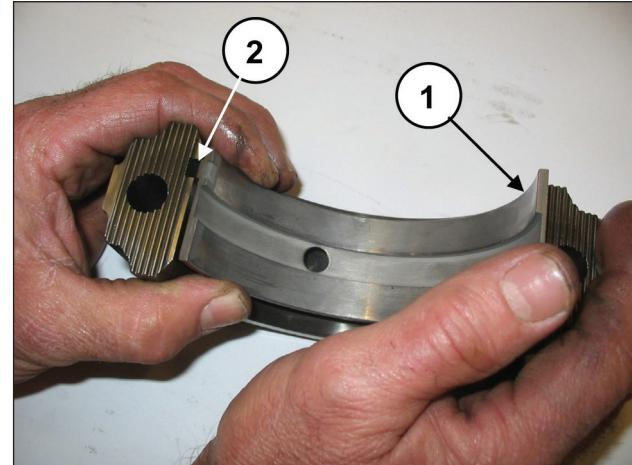
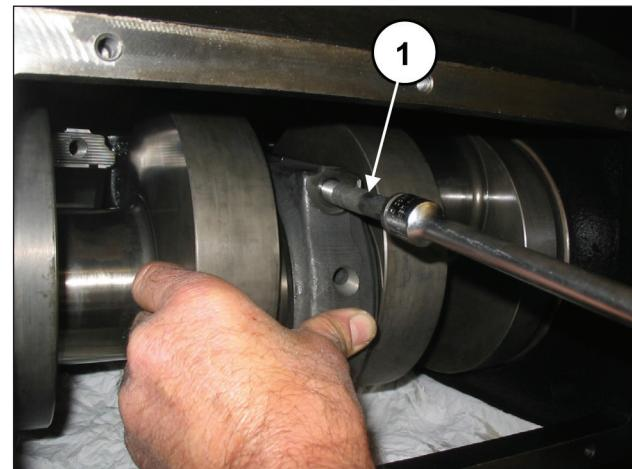

Fig. 59
Fig. 60
Apply the lower half-bearings to the caps (pos. ①, Fig. 59) ensuring that the half-bearing reference notches are positioned in their housing on the cap (pos. ②, Fig. 59). Fasten the caps to the half-conrods by means of M12x1.25x87 screws (pos. ①, Fig. 60).